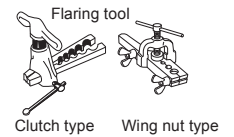
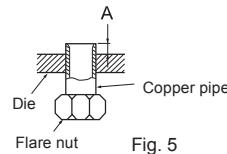

Fig. 4
Fig. 5
- Insert the drain hose fully into the drain pan at the rear right of the indoor unit. (Fig. 4)
- Insert the drain hose into wall hole sleeve (C), and hook the upper part of indoor unit on installation plate (1). Then, move the indoor unit completely to the left in order to make placing the piping in the back space of the unit easier.
- Cut out a piece of cardboard from the shipping box, roll it up, hook it onto the back rib, and use it as a spacer to lift the indoor unit. (Fig. 5)
- Connect the refrigerant piping with the extension pipe (B).
- Thrust the lower part of the indoor unit into the installation plate (1).
- 4) Flaring work (Fig. 4, 5). Firmly hold copper pipe in the dimension shown in the table. Select A mm from the table according to the tool you use.